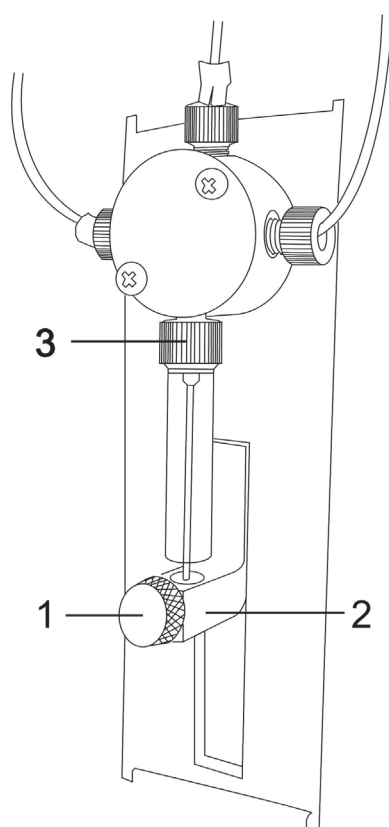

Figure 2: Syringe Pump with the plunger holder in the upper position.
4. Loosen the plunger locking screw at the bottom, (1) in Figure 2.
5. Manually lower the plunger drive by firmly pushing down the plunger holder assembly, (2) in Figure 2.
6. Remove the syringe from the valve by unscrewing the syringe at the top nut, (3) in Figure 2.
Install the new syringe into the valve by tightening the syringe at the top nut, (3) in Figure 2 until the touch-off point is reached. Tighten 1/8 to 1/4 turn.
10. Raise the plunger holder, (2) in Figure 2, so that the syringe fits completely into the holder.
11. Tighten the plunger locking screw, (1) in Figure 2.